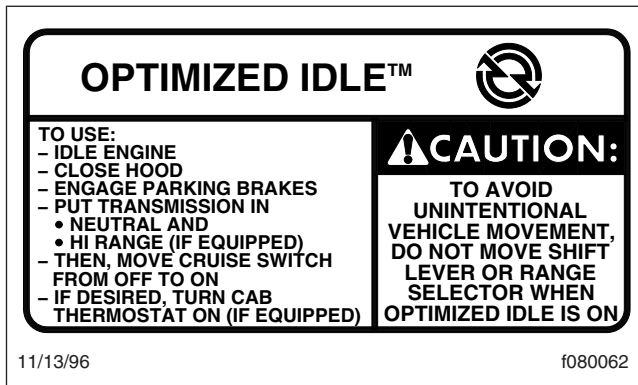
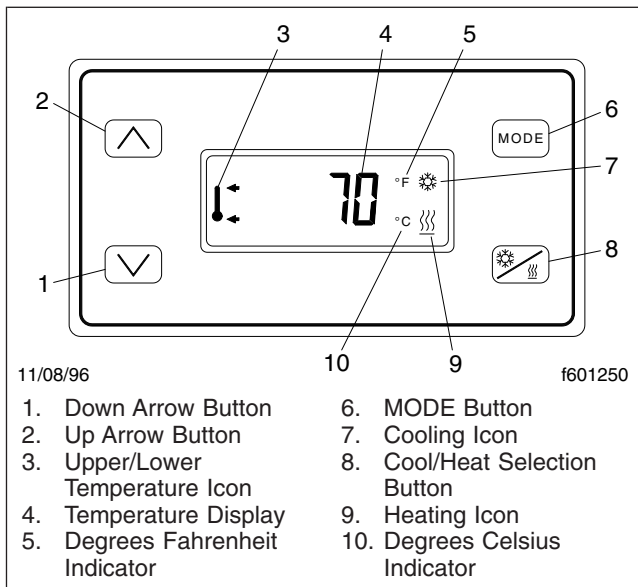

Fig. 11.3, Optimized Idle Dash Label
Fig. 11.4, Optimized Idle Thermostat
Vehicles equipped with Optimized Idle have a label on the dash, and a telltale (OPT IDLE) in the ICU. See Fig. 11.3 for the dash label detail. If equipped, a thermostat is located above the sleeper bunk. See Fig. 11.4.
- 2.2 Turn on the thermostat by touching any of the four buttons. See Fig. 11.4.